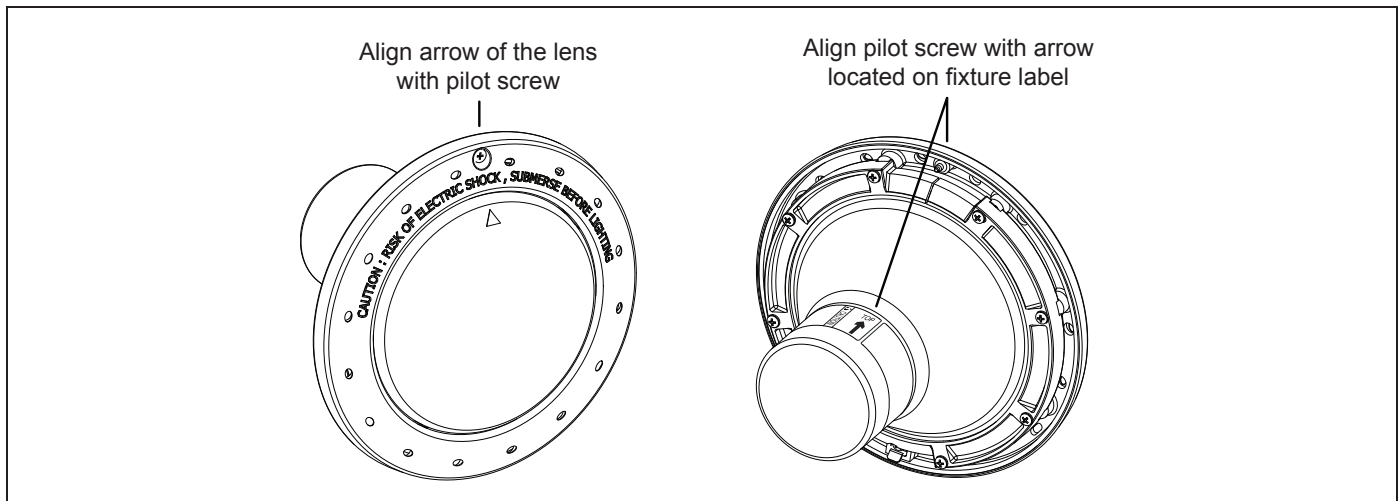

Figure 2. Alignment of the Lens, Face Ring, Housing and Clamps for Pool White Lights
- c. Position the lens and gasket on the fixture. Place the face ring and the top clamp over the lens and align the pilot screw with the small arrow mark on the face of the lens. Note that the small arrow mark on the face of the lens and the pilot screw of the face ring must be aligned with the arrow located on fixture label that reads, "Arrow on this label must line up with the pilot screw on the Face Ring". See Figure 2.
- e. Spread the bottom clamp over the electrical cord and slide it onto the back of fixture to the top clamp. See Figure 2.
- f. Tighten the eight (8) Phillips head screws for pool light or the six (6) Phillips head screws for spa light in alternating cross-pattern. Torque screws to approximately 20 in-lbs. Do not over-tighten.
- a. Coil four (4) feet of cord around the fixture and place the light assembly into the niche.